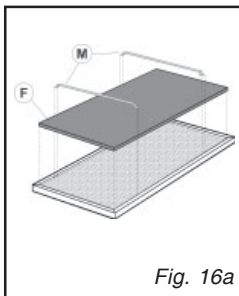

Fig. 16a
• Replacing the charcoal filter (fig. 16a-16b).